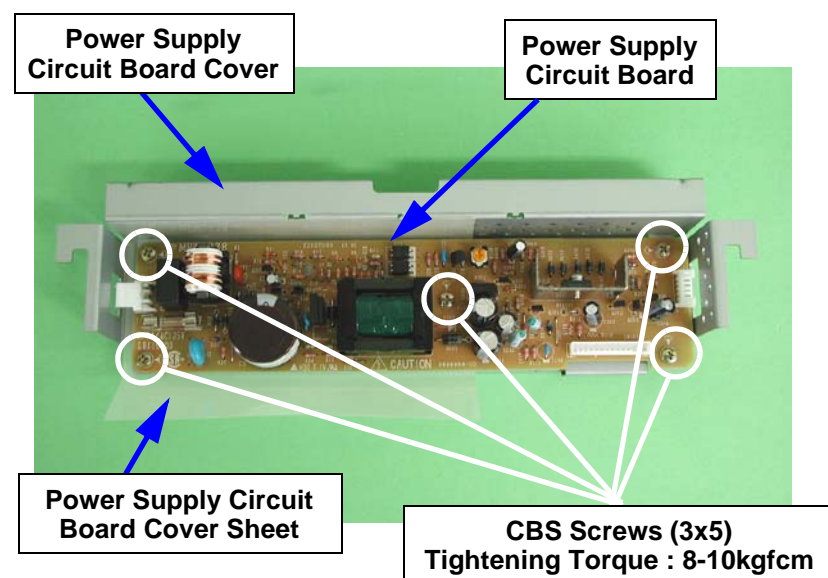

Figure 4-33. Power Supply Circuit Board Removal (4)
7. Remove the five screws (CBS, M3x5), and then remove the power supply circuit board from the power supply circuit board cover. (See Figure 4-33)